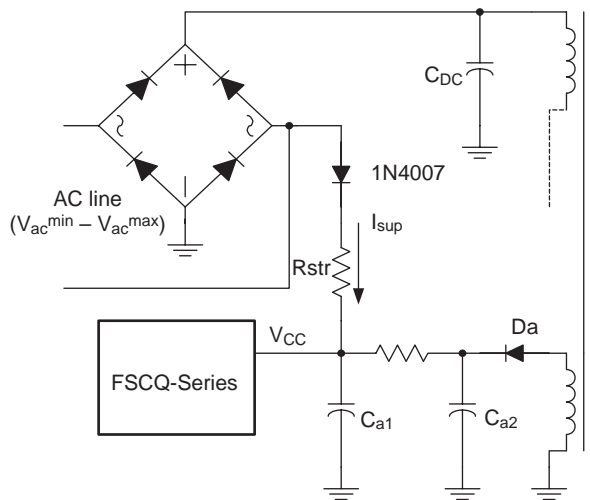
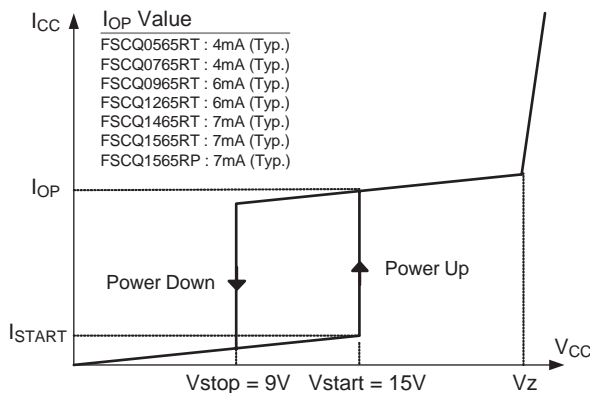

Figure 4. Startup circuit
Figure 5. Relationship Between Operating Supply Current and V_{CC} Voltage
1. Startup: Figure 4 shows the typical startup circuit and the transformer auxiliary winding for the FSCQ-Series. Before the FSCQ-Series begins switching, it consumes only startup current (typically 25µA). The current supplied from the AC line charges the external capacitor (C_{a1}) that is connected to the V_{CC} pin. When V_{CC} reaches the start voltage of 15V (V_{START}), the FSCQ-Series begins switching, and its current consumption increases to I_{OP}. Then, the FSCQ-Series continues its normal switching operation and the power required for the FSCQ-Series is supplied from the transformer auxiliary winding, unless V_{CC} drops below the stop voltage of 9V (V_{STOP}). To guarantee the stable operation of the control IC, V_{CC} has under voltage lockout (UVLO) with 6V hysteresis. Figure 5 shows the relationship between the operating supply current of the FSCQ-Series and the supply voltage (V_{CC}).